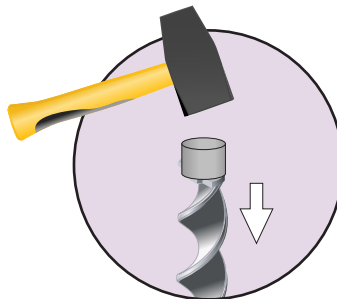
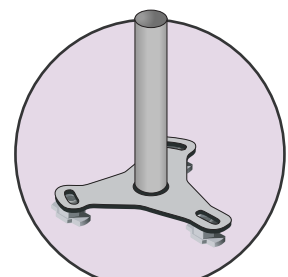

Fig 3.
Fig 4.
4. Hammer the anchor into the ground, (Fig 3). When it is at ground level remove the cap. (Fig 4)
7. Place the baseplate over the anchors to check position of anchors to the holes on the baseplate. If required, tap the anchor slightly to bring it back in line with the hole on the baseplate. (Fig 4)